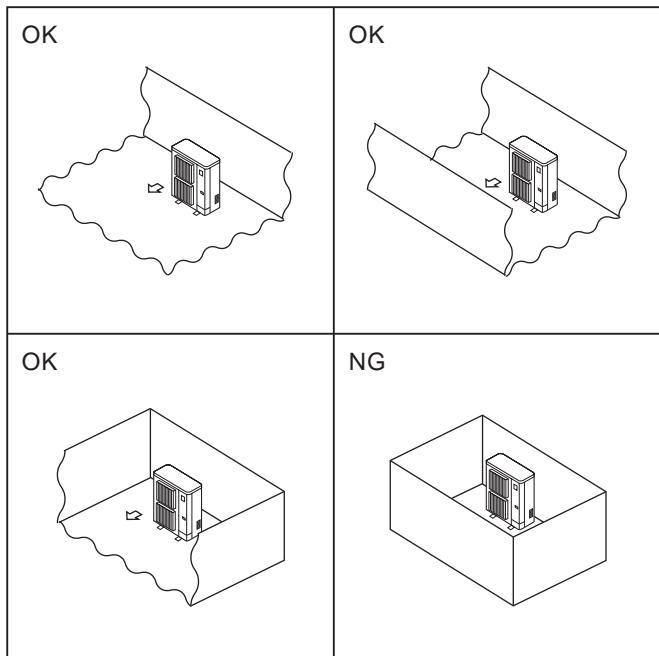

Fig. 2-1
- ◎ Install all outdoor units in a place where at least one of the four sides is open, and in a sufficiently large space without depressions. (Fig. 2-1)